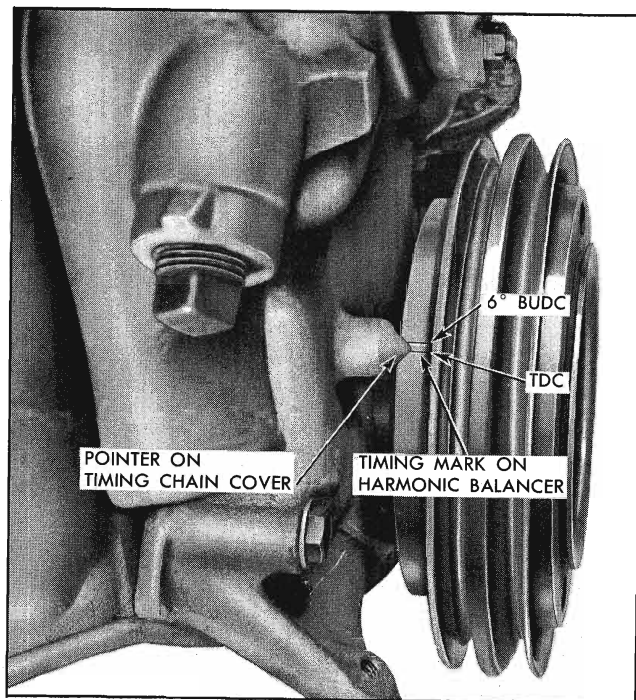

Fig. 11-57 Timing Marks and Pointer
1. Check to see that engine is at firing position for No. 1 cylinder (No. 1 piston at top of compression stroke) and timing mark on harmonic balancer is indexed with pointer (Fig. 11-57).